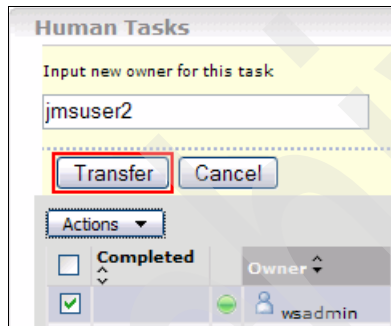

Figure A-112 Providing a user ID to transfer a human task
3. In the Human Tasks panel (Figure A-112), type the user ID to which the human task should be transferred and click the **Transfer** button.